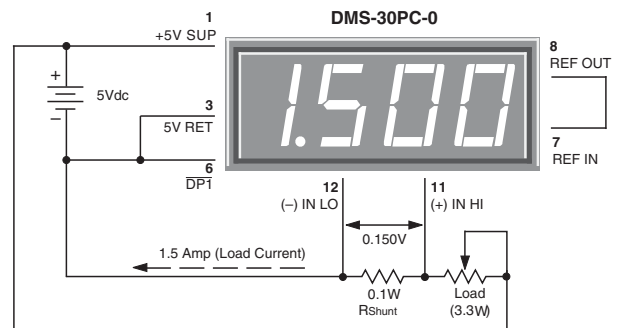

Figure 9. Basic DC Ammeter Circuit
**7. Digital Ammeter:** Digital ammeters are finding ever-increasing usage because analog-style ammeters (moving-vane types) now cost roughly the same as their digital counterparts. Additionally, analog ammeters are not nearly as rugged as modern digital panel voltmeters. Figure 9 illustrates a typical ammeter application. The circuit uses a ±200mV input meter — the preferred range for most ammeters — to measure the voltage developed across a 0.1Ω current shunt. The circuit shown represents a basic ammeter connection diagram. A detailed application note describing digital dc ammeters is included in Murata Power Solutions' new Digital Panel Meter Databook.